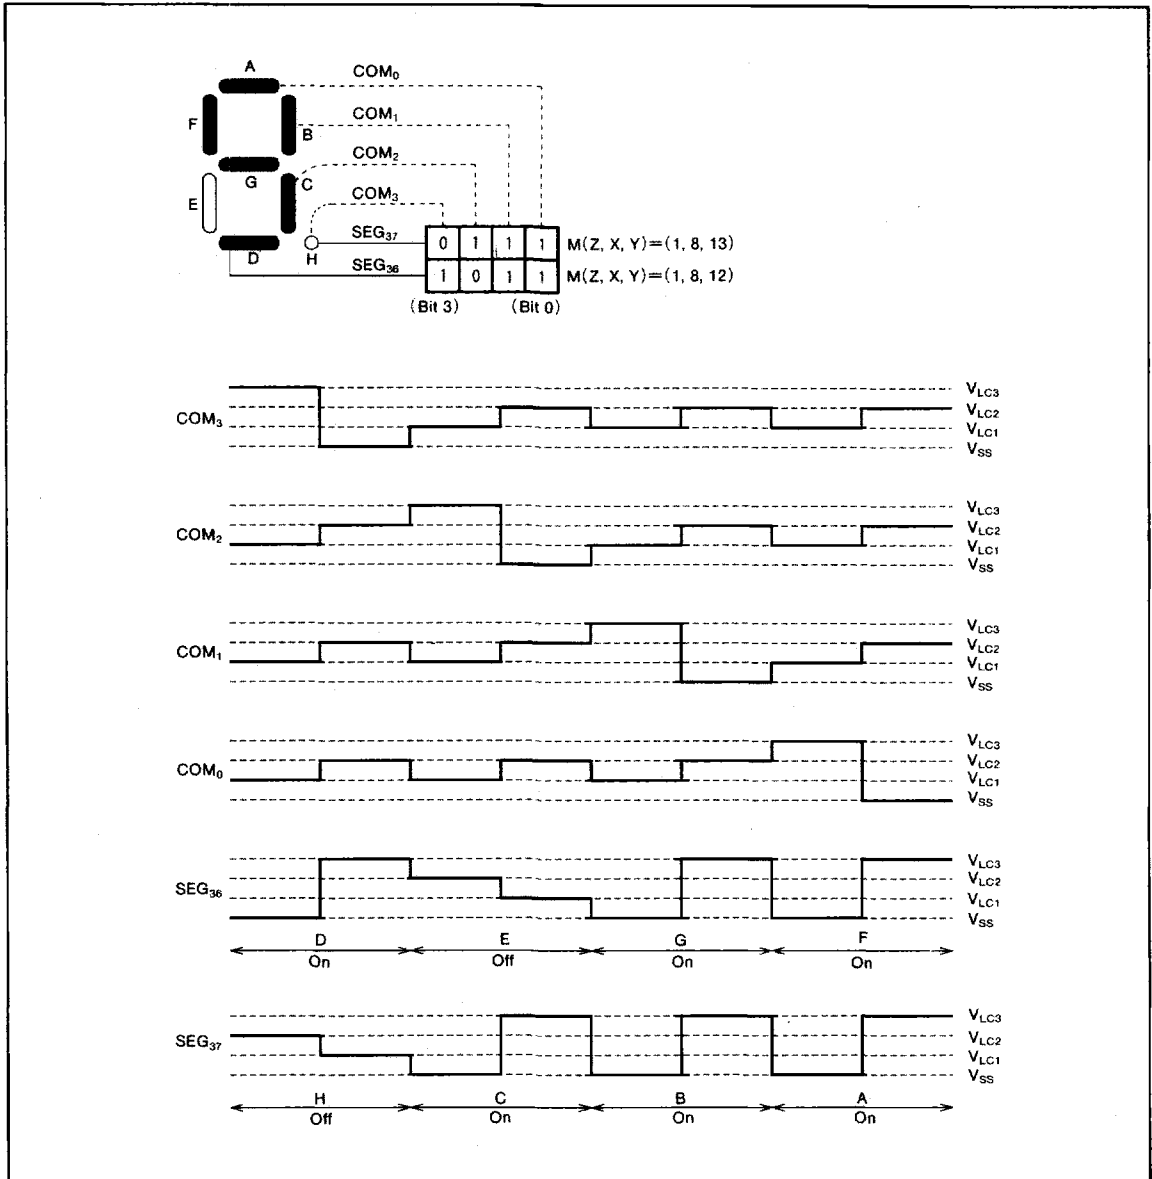

Fig. 38 Display pattern example and drive waveform example
4. Write $(1011)_2$ and $(0111)_2$ to addresses $M(Z, X, Y) = (1, 8, 12)$ and $M(Z, X, Y) = (1, 8, 13)$ in RAM as shown in Fig. 38.